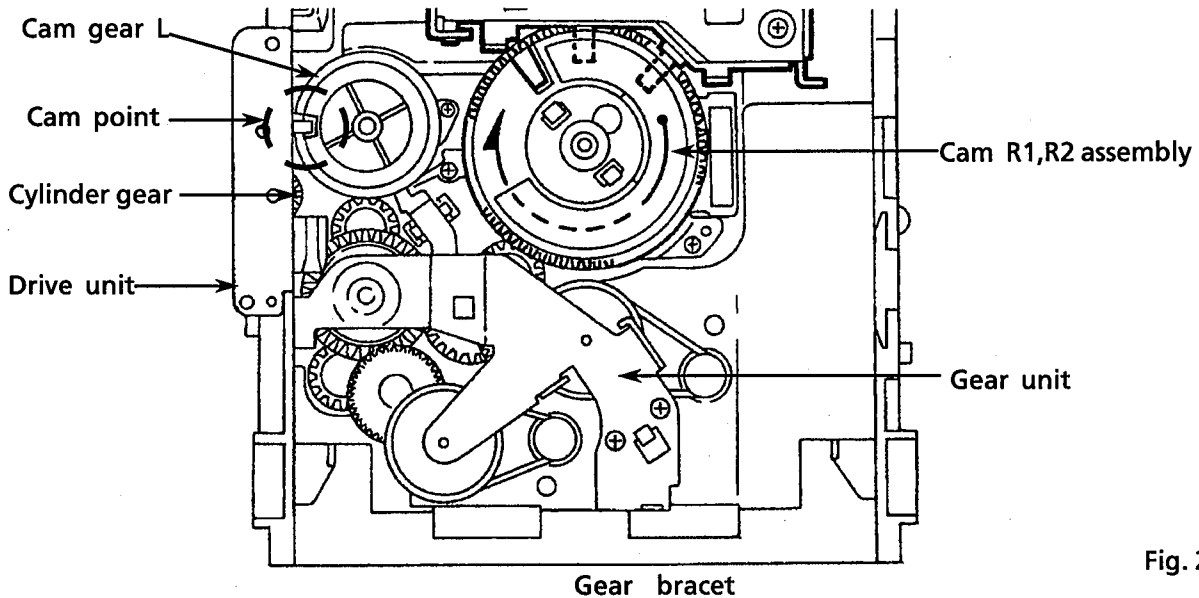

Fig. 28
[NOTE] Set the drive unit's pawl ⑥ so that it is positioned as shown in Fig. 28.